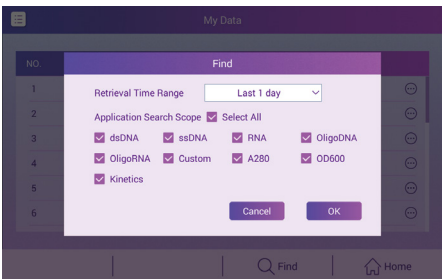

Figure 19
- (2) Search: Click "Data Browsing" in the main interface to enter the data browsing home page as shown in Figure 17, and click the "Search" to enter the search page and select screening conditions as shown in Figure 19.